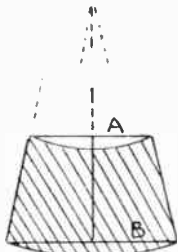

Fig. 1 - Shape pattern
A pattern for the shade must be drawn out first. This is shown at Fig. 1. On a sheet of paper, draw line (A), the small diameter of the shade, below this line (B), the large diameter, both lines being separated by a distance equal to the depth of the shade. Connect these lines at each end, then extend them until they meet at the centre line.